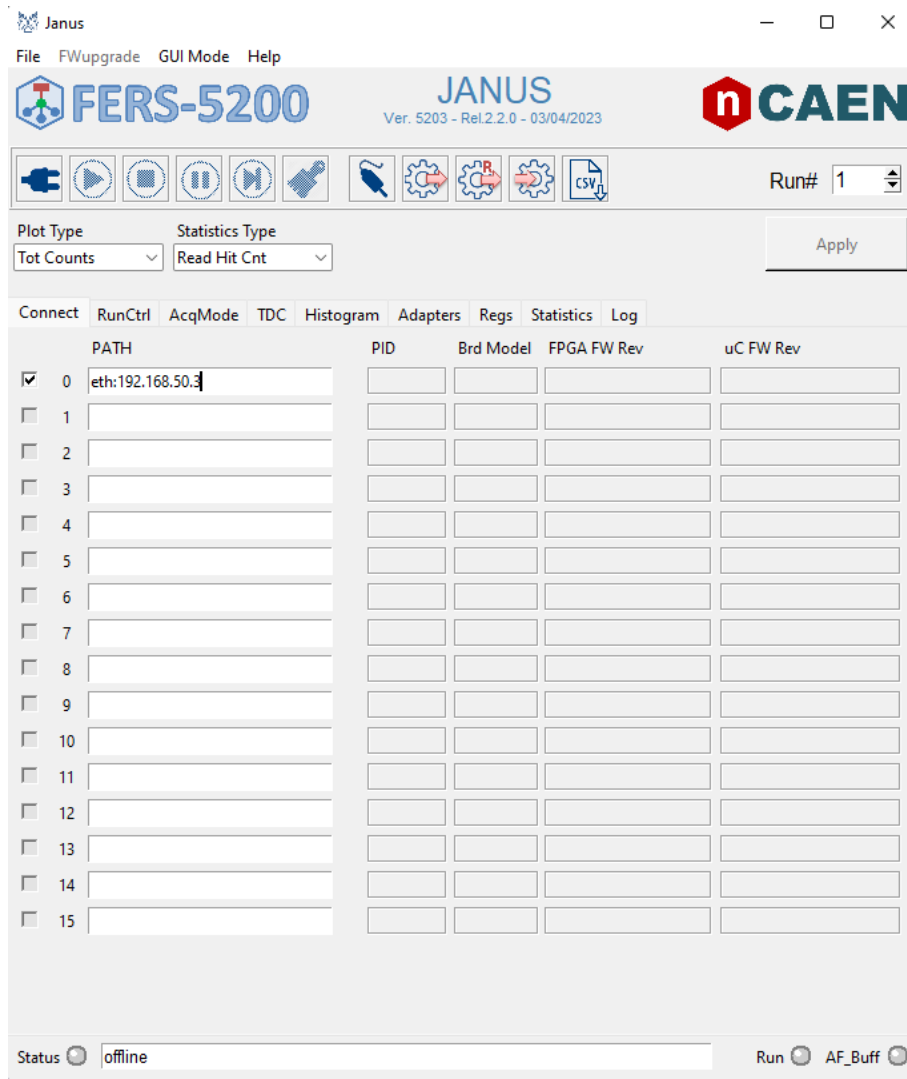

Fig. 11.15: Starting window of the Janus 5203 software GUI.
3. Double click on the **JanusPy.pyw** executable file. No installation steps will be required and a window similar to the one in Fig. 11.15 will be opened. The connection between the software and the board is not yet established.
- "usb:0" in case of an USB connection. It is also possible to use the syntax "usb:PID", being PID the unique board identification number that is located either on the bottom of the A5203(B) PCB or on the front panel of the DT5203.
- "eth:192.168.50.3" (as it is shown in **Fig. 11.15**) or another Ethernet address in case this was changed (see Sec. **11.2.1**).